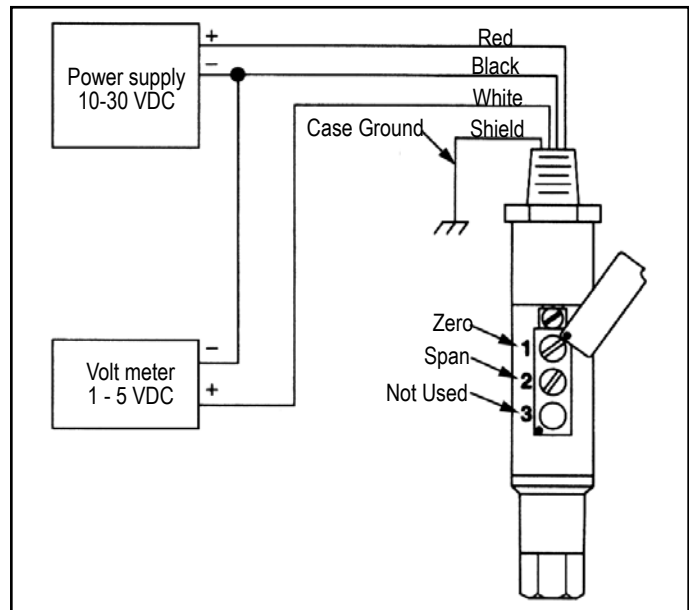

FIGURE 1
Two calibration screws (zero and span) are located underneath the adjustment cover. (See Figure 1.) Loosen the cover screws slightly (do not remove) and rotate the cover to reveal the adjustment screws.
A pressure source with a calibrated reference gage, a voltmeter and a DC voltage supply are required. (See Figure 1.) Note the adjustable range on the instrument nameplate. For both zero and span adjustments, turn the adjustment screw clockwise to increase, counterclockwise to decrease.
1. Connect the transmitter as shown in Figure 1. The case ground must be connected to the earth ground.